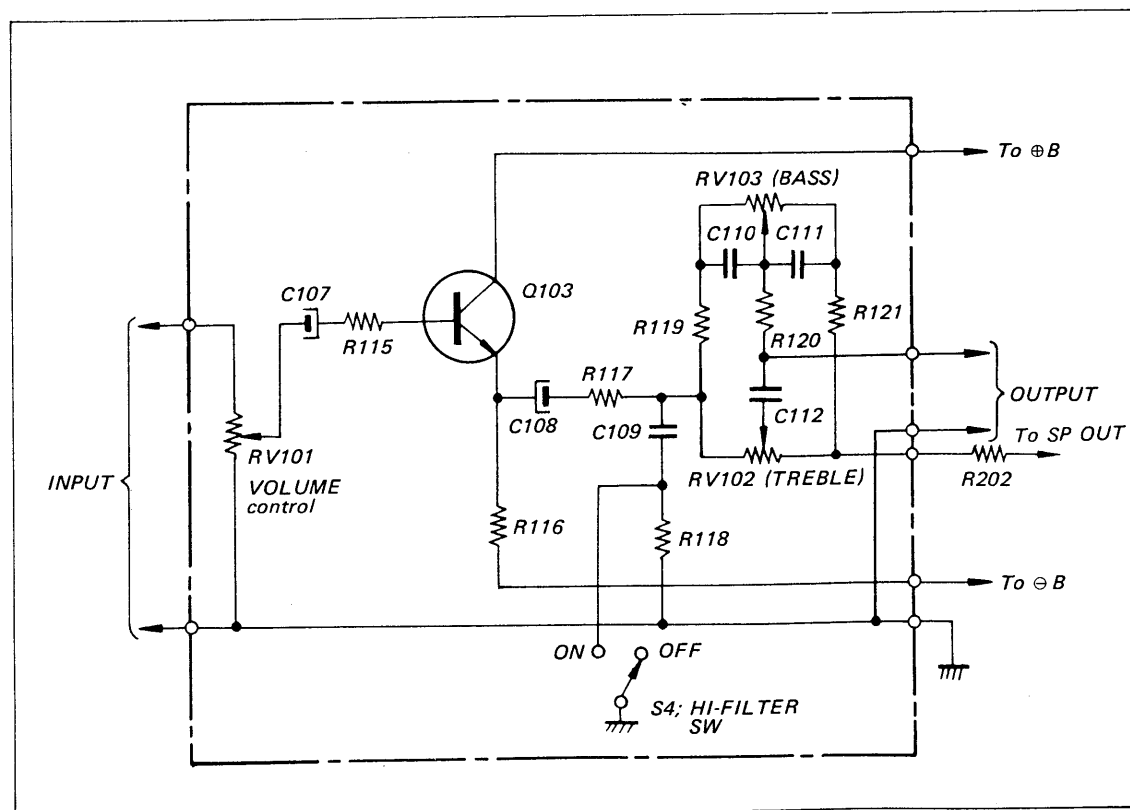

Fig. 1-1. Partial schematic diagram of tone control circuit
**VOLUME control RV101** The equalized phono signals and signals applied to the other input terminals are fed to the volume control through the MONITOR and MODE switches. The level of the signal applied to the following tone control circuit is determined by the setting of RV101 shown in Fig. 1-1.
**Buffer Amplifier (Emitter follower); Q103** This isolates the volume control and tone control to eliminate mutual interference shown in Fig. 1-1. The tone control circuit employed is a modified negative-
Note that the output of power amplifier is fed back to the RV102 through R202 shown in Fig. 1-1.
The high-cut off filter (R117 and C109) eliminates unwanted high frequency components (5 kHz and higher) from the input signal when this switch is ON, shown in Fig. 1-1.